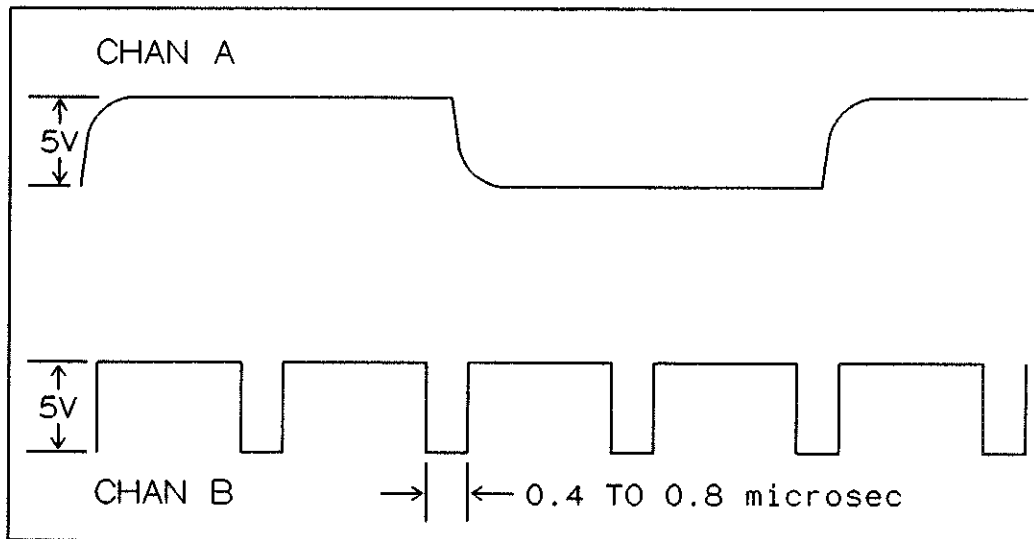

Figure 21-3 SYNC TRIG Waveforms
6. Verify that the waveform displayed on the oscilloscope is as shown in Figure 21-3. The sync pulse shown on channel B of the oscilloscope is between 0.4 μ S and 0.8 μ S.
23. Verify that the waveform displayed on the oscilloscope is as shown in Figure 21-3. The sync pulse shown on channel B of the oscilloscope is between 0.4 μ S and 0.8 μ S.